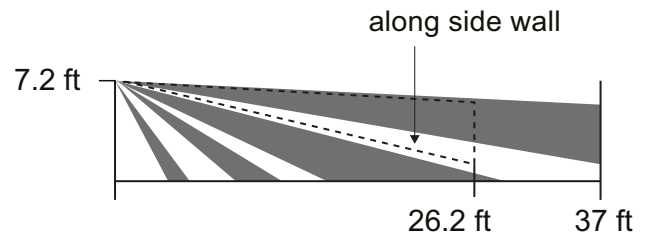

**Figure 2** Remove the EN1342-60 from the mounting bracket
3. Remove the EN1342-60 from the mounting bracket per Figure 2.